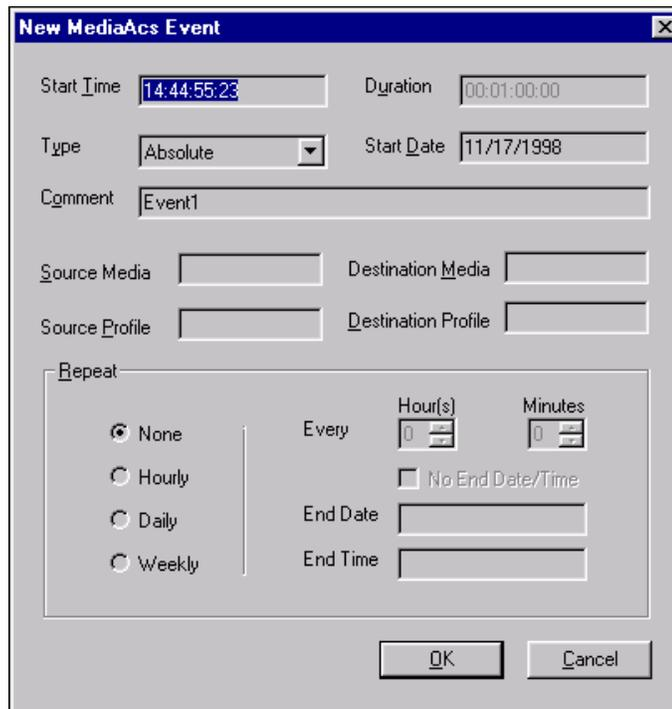

Figure 138. New Transfer Event dialog box
2. Choose **File | New Event | Transfer** and the New Transfer Event dialog box appears, as shown in Figure 138.